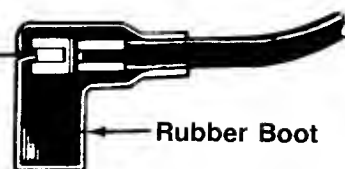

FIGURE 12.
1. Attach spark plug wire to spark plug. If unit is equipped with a rubber boot over the end of the spark plug wire, make certain the metal loop on the end of the spark plug wire (inside the rubber boot) is fastened securely over the metal tip on the spark plug. See figure 12.